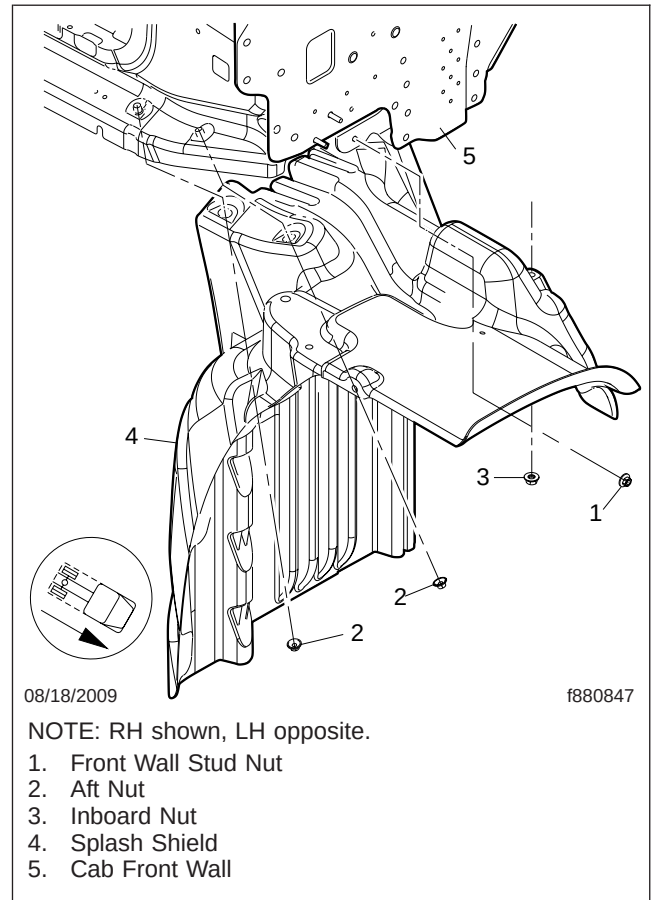

Fig. 2, Splash Shield Fasteners
4. From underneath the splash shield, remove the nut (Fig. 2, item 3) located on the inboard side of the splash shield; see Fig. 3.
5. Remove the two aft nuts (Fig. 2, item 2).
6. Remove the front wall stud nut (Fig. 2, item 1).
1. Hang the splash shield from the front wall stud. From underneath the splash shield install, but do not tighten, the front wall stud nut (Fig. 2, item 1).
2. Shift the splash shield to align the cab studs to the splash shield holes. Install the two aft nuts (Fig. 2, item 2) on the studs. Tighten the nuts 11 lbf·ft (15 N·m).
3. Install the inboard nut (Fig. 2, item 3) on the stud. Tighten the nuts 11 lbf·ft (15 N·m).